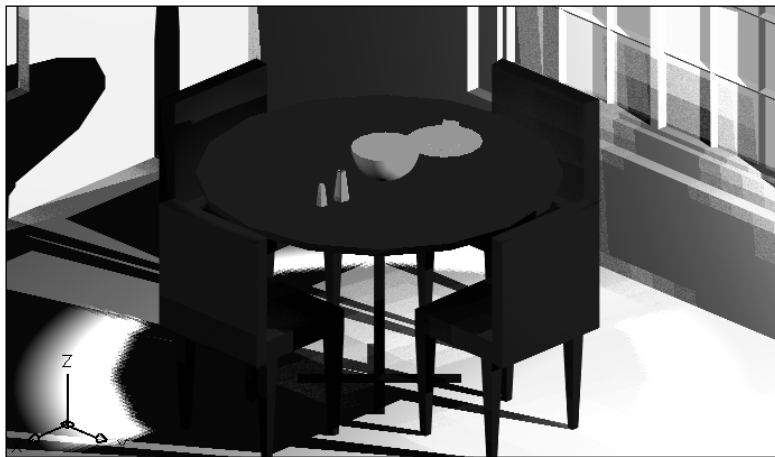

Figure 25-14: The same rendering with shadows.
14. Choose Render again. Check Shadows in the Rendering Options section. Click Render. Notice that the rendering takes much longer. Wow! Lots of shadows. This rendering also makes it clear that no light is coming through the windows. (See the "Creating Scenes" section to learn how to make materials transparent.) The rendering should look like Figure 25-14.